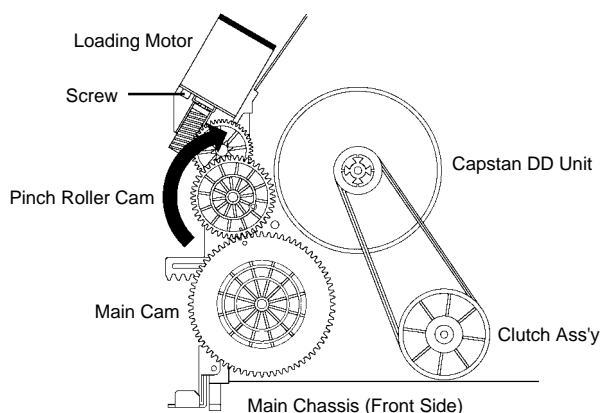

Fig. 2
1. Remove the Top Cabinet, Front Cabinet and DVD Block. (Refer to item 1 of the **DISASSEMBLY INSTRUCTIONS**.)
3. Rotate the Pinch Roller Cam in the direction of the arrow by hand to slacken the Video Tape. (Refer to Fig. 2)